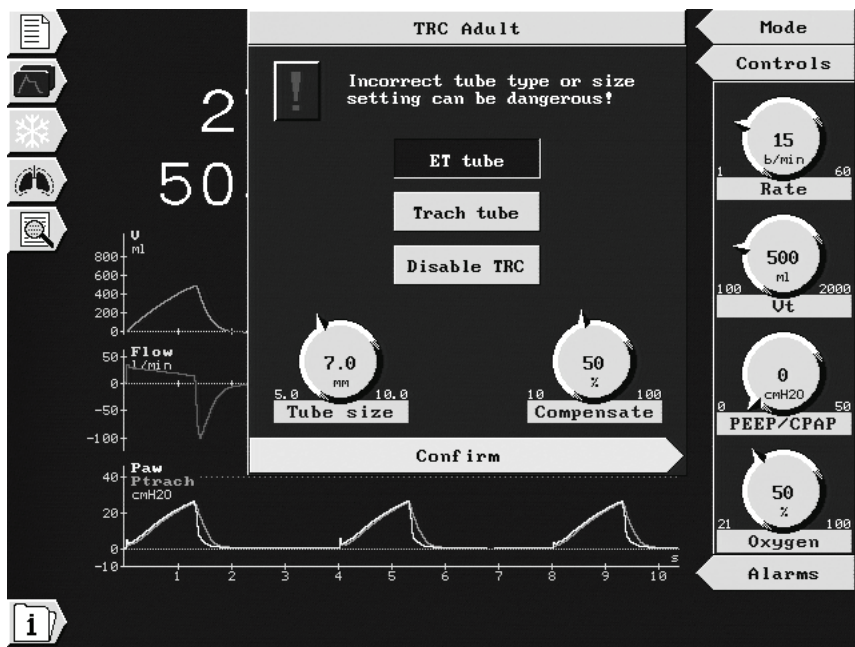

Figure 4-4. TRC window
1. From the **Additions** window, open the **TRC** window (Figure 4-4).